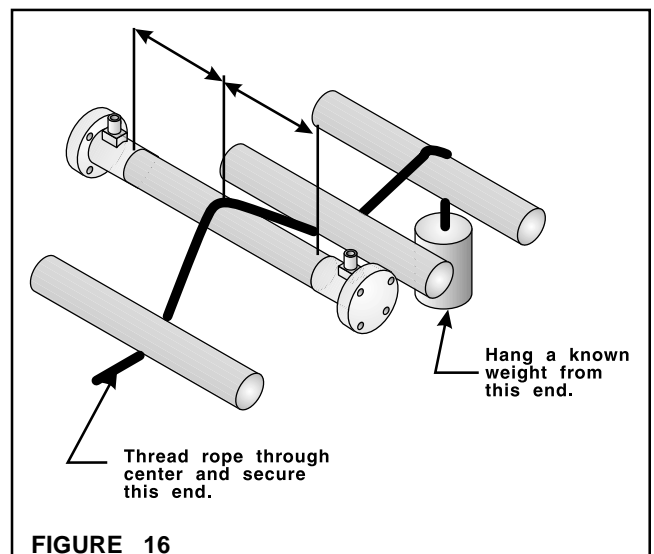

FIGURE 16
1. Thread a rope or narrow web over the Sensor Roll in the normal path. Be sure the rope or web is at the center of the Sensor roll; then, hang a known weight (within the range of the system) on one end of the rope or web (Example: Maximum Tension = 100 Lbs., hang a 50 Lb. weight) (See Figure 16).